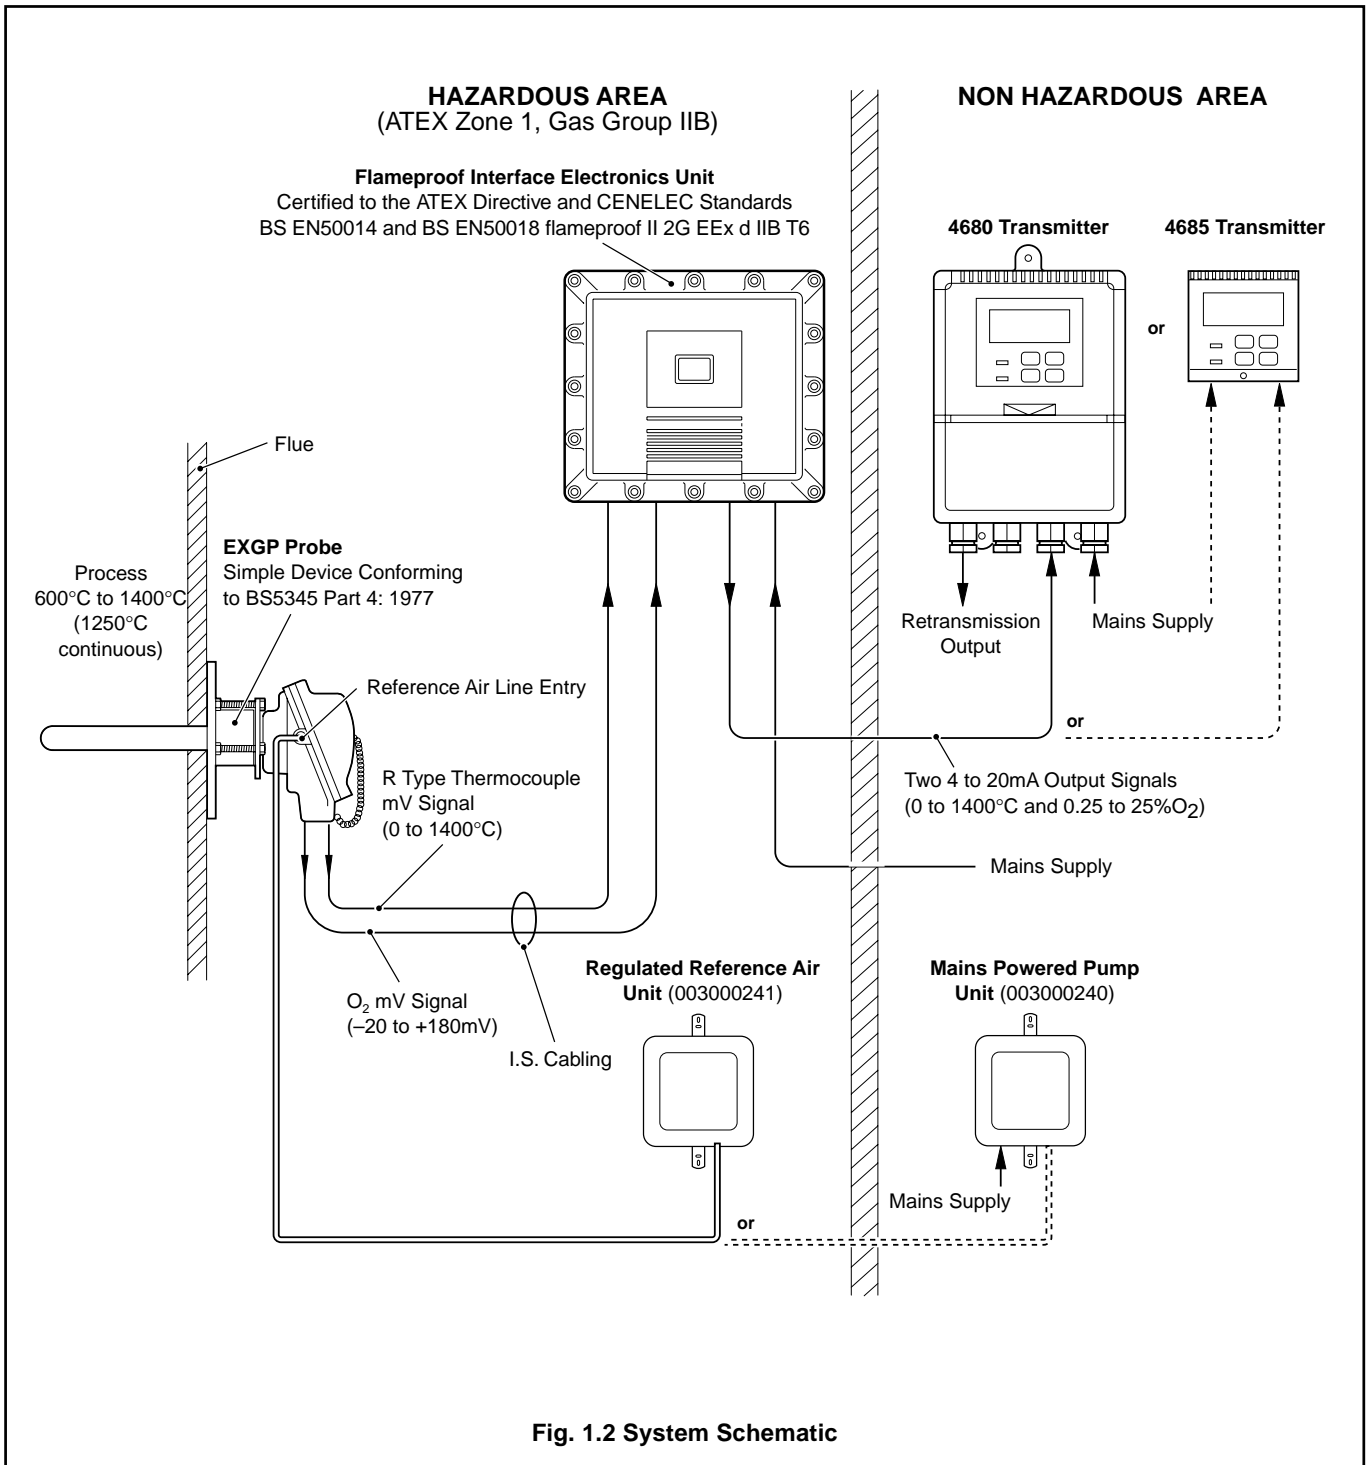

Fig. 1.2 System Schematic
1.3 System Hardware – Fig. 1.2
Reference air supplied at a rate of 100 to 1000cm³/hr (0.2 to 2ft³/hr) is required for accurate operation and can be provided by a pump or regulator unit – see Fig. 1.2.